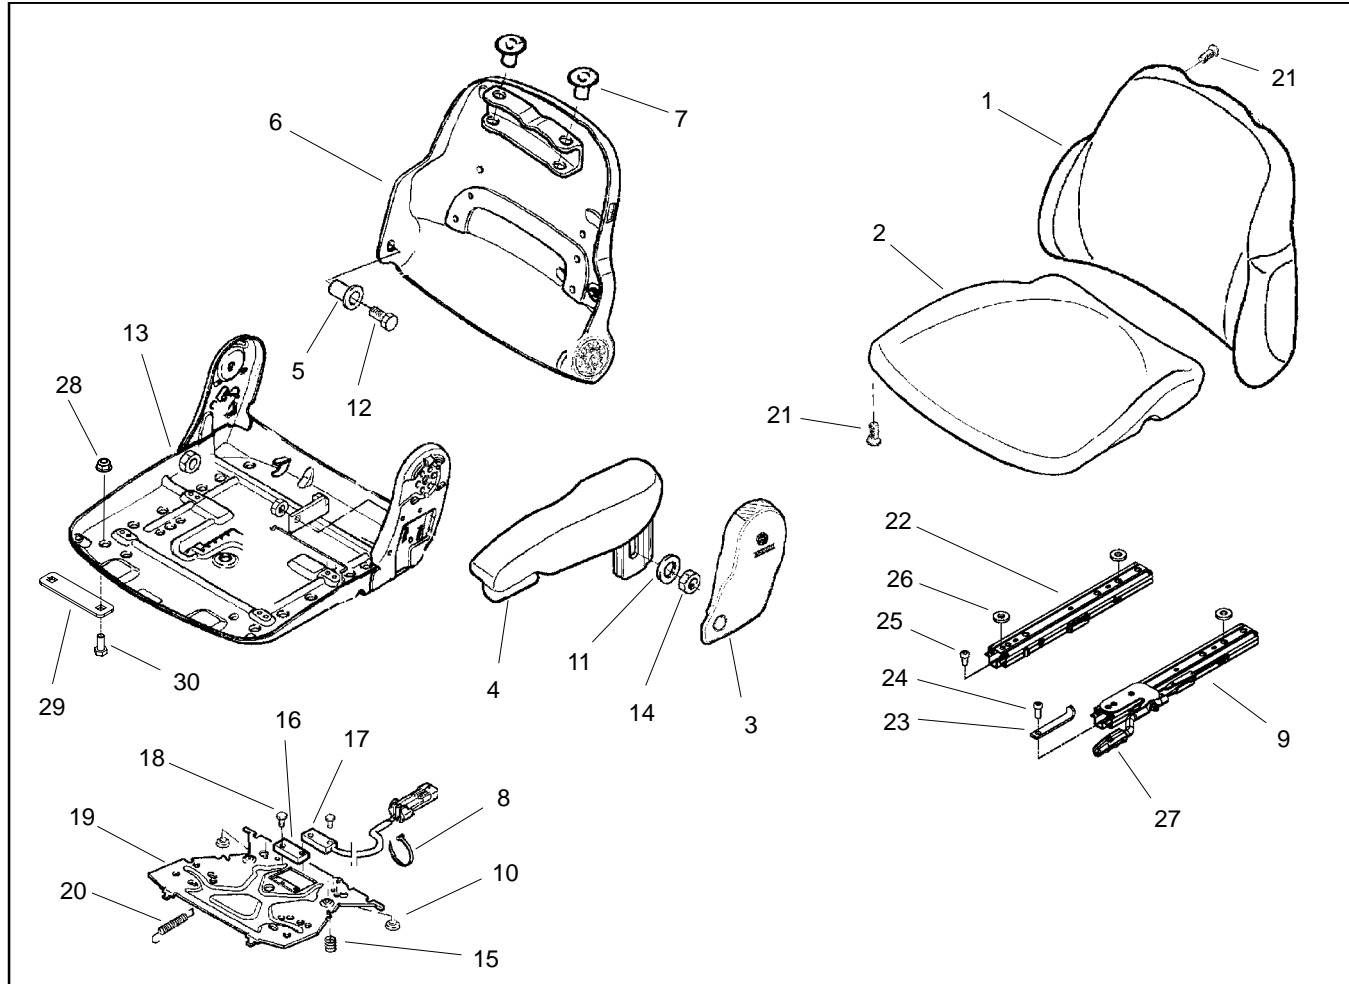

Figure 18
### Disassembly (Fig. 18)
1. Disassemble operator seat as necessary using Figures 18 and 19 as guides.
### Assembly (Fig. 18)
1. Assemble operator seat using Figures 18 and 19 as guides.